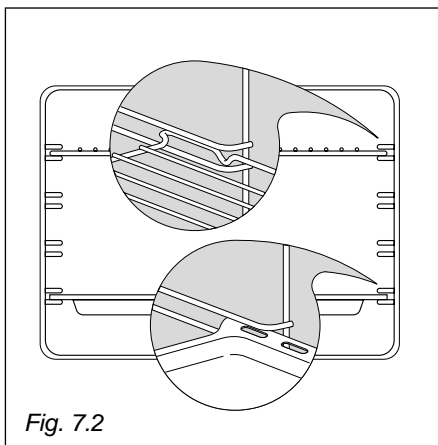

Fig. 7.2
- Slide the tray and rack into the runners (Fig. 7.2).